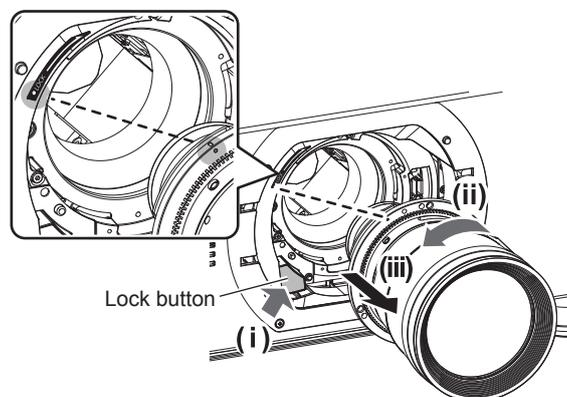

Fig. 1
**3) While pressing the lock button, remove the projection lens by turning it counterclockwise. (Fig. 1)**